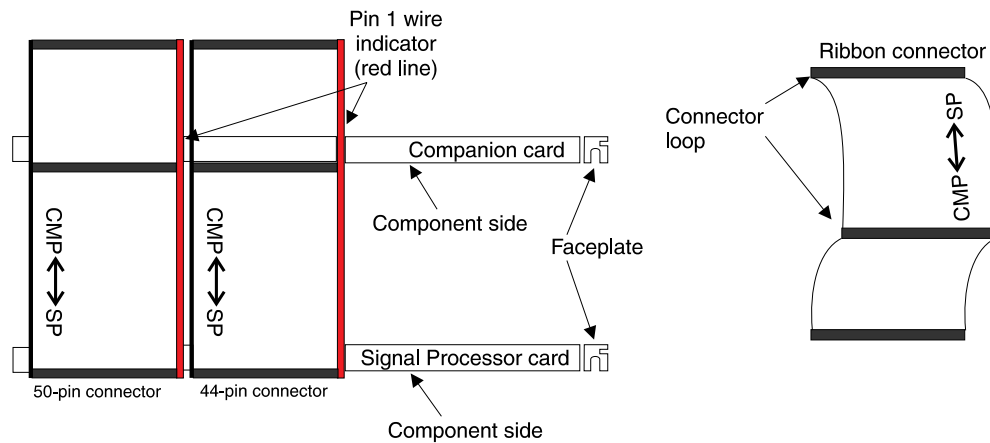
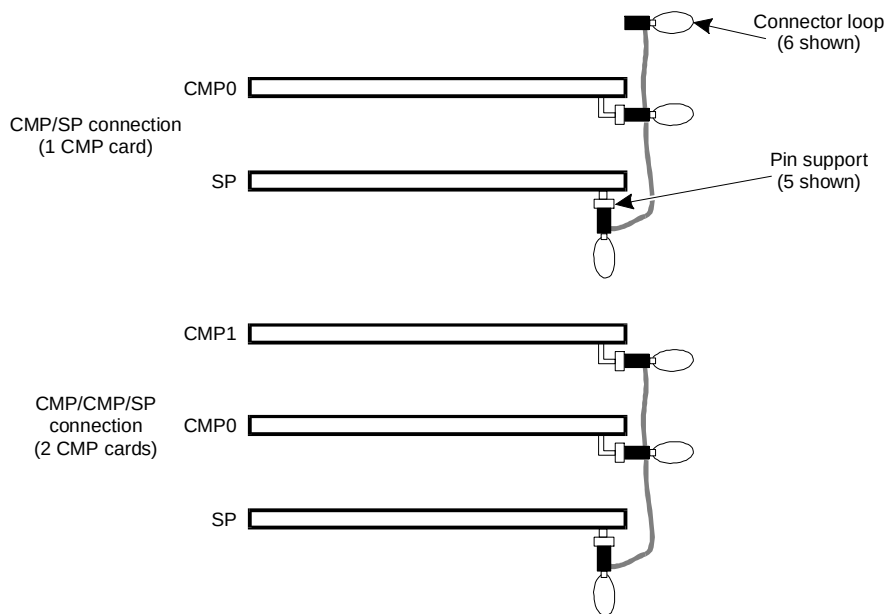
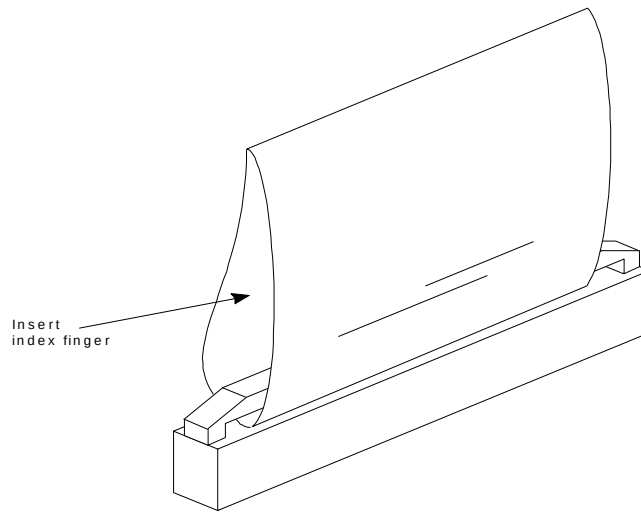

Figure A-3. Top view of SP/CMP Bus Cables
Figure A-4. End view of SP/CMP Bus Cables
Figure A-5. SP/CMP Connector Loop
Because of space limitations on the SP and CMP circuit cards, the SP/CMP bus cable arrangement is not designed with ejectors similar to the TDM bus cable (see Figure A-3 and Figure A-4). Therefore, great care must be used when removing the SP/CMP connectors from the circuit cards. Use the following procedures to remove the SP/CMP Bus cable from the SP and CMP cards.
1. Insert an index finger into the plastic loop provided with each connector on the CMP card. See Figure A-3, Figure A-4, and Figure A-5.
3. Insert an index finger into the plastic loop (See Figure A-3, Figure A-4, and Figure A-5) provided with the SP connector and hold the card steady with your free hand.
6. Loosen the four 1/4-turn fasteners on the front of the peripheral bay and the seven 1/4-turn fasteners on the right side door as shown in Figure A-3.